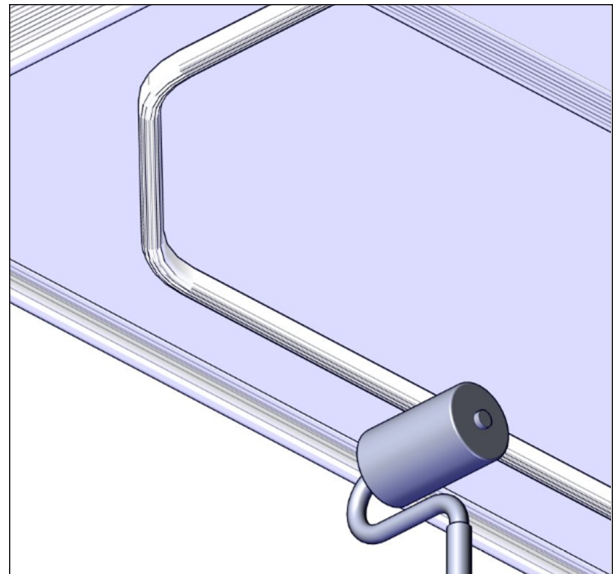

FIGURE 64: APPLY PRESSURE WITH ROLLER
13. Once satisfied that the seal is released, raise the cover 36" (91 cm) high. Apply a minimal pressure of 15 psi (103 kPa) on the seal with the roller as shown in Figure 64 to properly bond the adhesive to the underside of the cover.